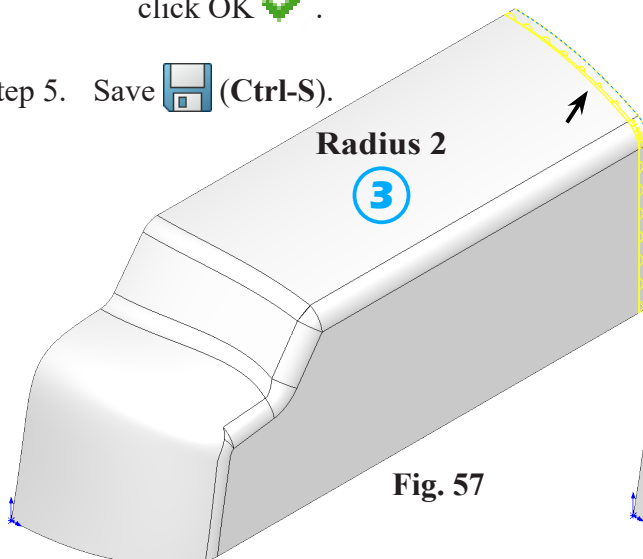

Fig. 57
③ Radius  2
click edge along rear (1), Fig. 57